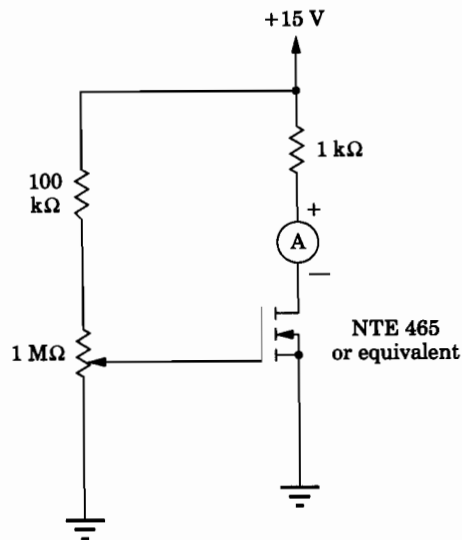

FIGURE 21–1 Schematic diagram of circuit.
1. Wire the circuit shown in the schematic diagram of Figure 21–1. *Be very careful in handling the MOSFET.* Manufacturers normally package MOSFETs with all leads shorted together with a piece of wire or metal ring and the leads pressed into black